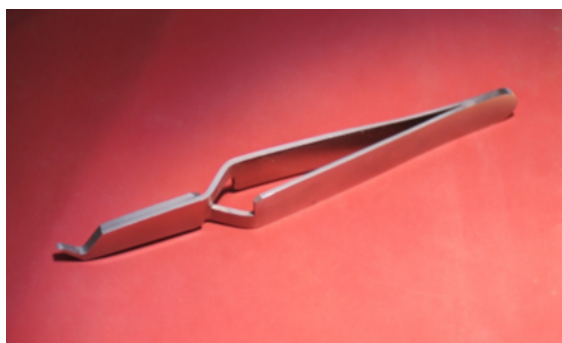

Figure 3: Bracket placement tweezer
4. Keep an orthodontic bracket placement tweezer ready. (Figure 3)